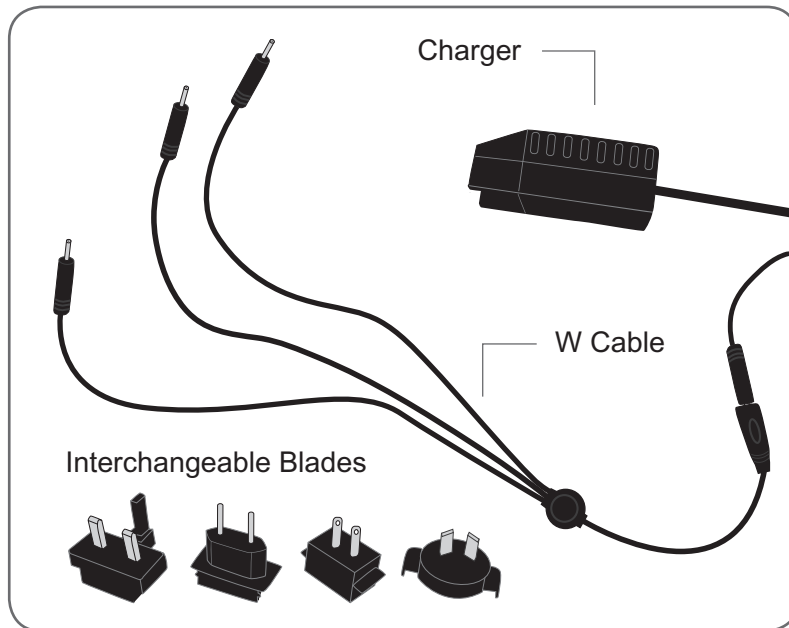

Figure 9-2: System charger set.
1. Select an appropriate blade. See Figure 9-2. Then slide the blade into the charger.